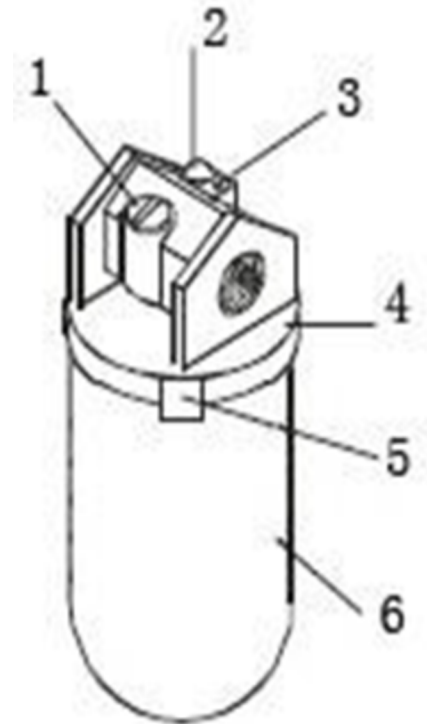

FIGURE 20
- Option 1: Unscrew the screw plug 1 (Fig. 20) and add oil directly.